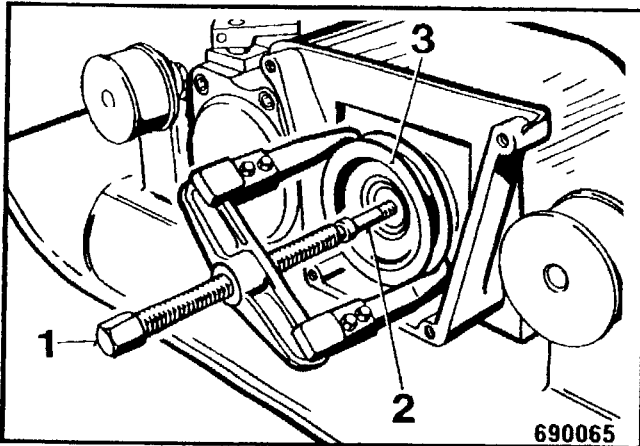

Fig. 7
- Insert a forcing screw 2 (Fig. 7) (M8 socket head cap screw).
- Attach the puller (1) and force the V-belt pulley (3) off.